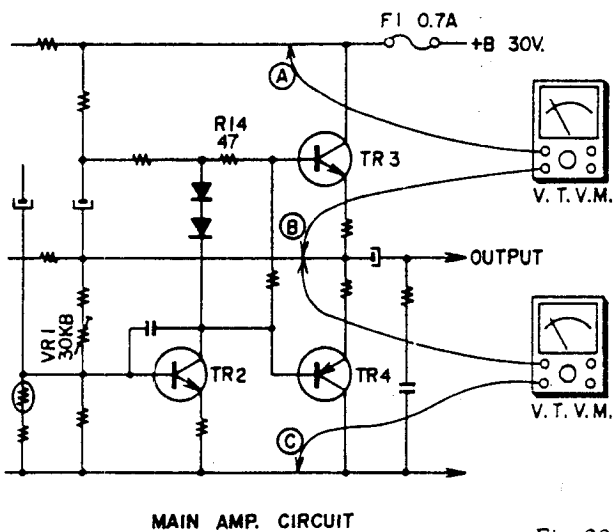

Fig. 20
As shown in Fig. 20, connect a V.T.V.M. between points (A) (B) as well as between (B) (C) and adjust variable resistor VR1 (30 KB) so that the V.T.V.M. indication is half the value of the supply voltage.